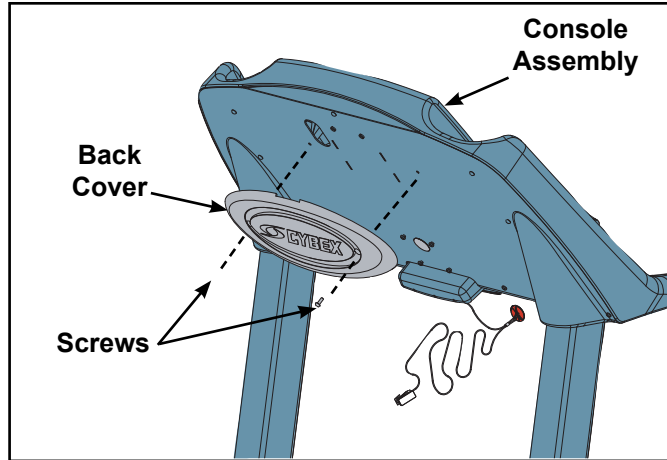

Figure 9
E. While being sure not to pinch any cables, use a Phillips screwdriver to secure the seven screws 8-16 x .50" (#14) that hold the console assembly (#2) to the console back (#4). See Figure 9.
F. Using a Phillips screwdriver secure the two screws (#13) securing the console assembly (#2) to the upright assembly (#3). See Figure 9.